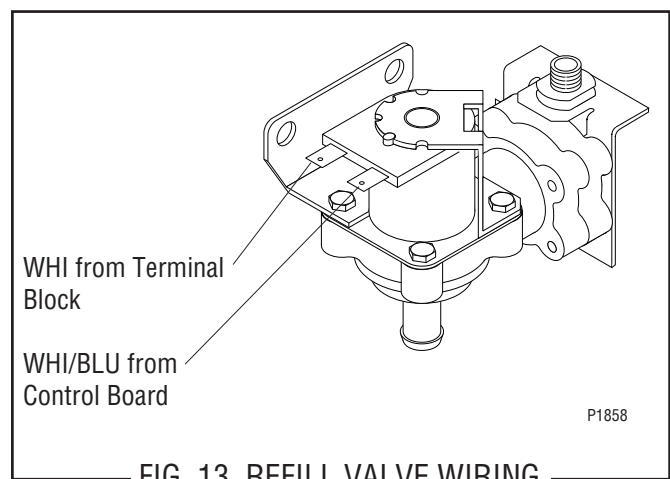

FIG. 13 REFILL VALVE WIRING
7. Refer to FIG. 13 when reconnecting the wires.